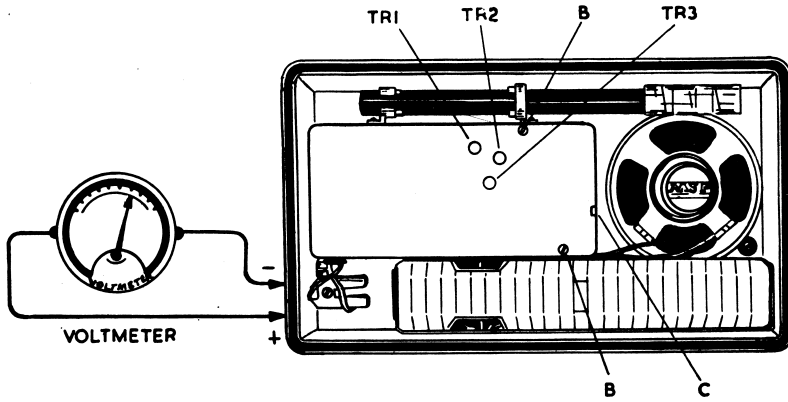

FIG. 1
The condition of the battery can be quickly checked by switching the set on and connecting a voltmeter across the contacts as indicated in FIG. 1. If the voltmeter indicates 5v or less, then the battery should be replaced.
1. Refer to FIG. 1 and disconnect dry battery.
To gain access to receiver components, remove moulded back as previously described. Refer to FIG. 1 - remove screws marked "B" then, with the aid of a screwdriver, engage the slot "C" and lever off the rear metal lid. Note that the complete circuit alignment can be carried out when these lids have been removed.